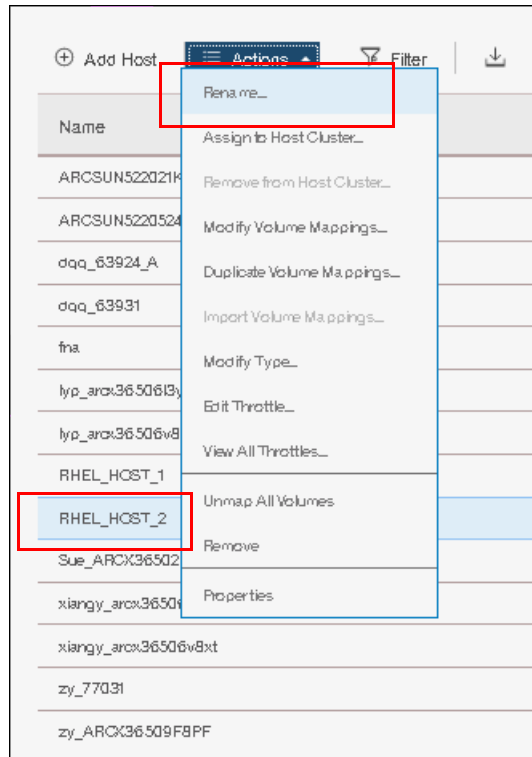

Figure 8-17 Selecting Rename action for host
2. Select the host that needs to be renamed and click **Action** as shown in Figure 8-17 on page 359.